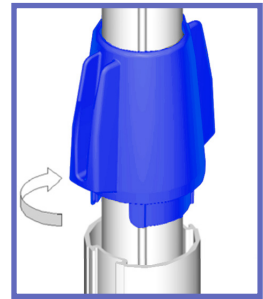

Fig. 32
7) Loosen the post by rotating the handle as shown in Fig. 32: